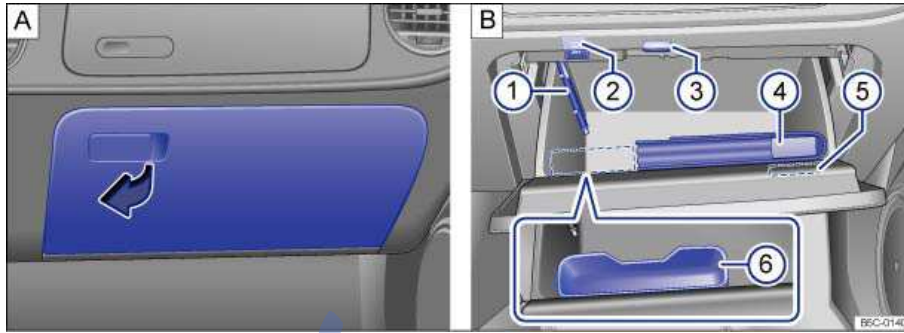

Fig. 104 A: On the passenger side: Lower glove compartment. B: Open glove compartment.
Key to fig. 104 B:
The lower glove compartment is designed to hold the Owner's Manual ⇒ fig. 104 B (4).
The Tire Pressure Monitoring System (TPMS) SET button is also located in the glove compartment ⇒ fig. 104 B (2).
Depending on equipment, there may be a jack for the factory-installed Media Device Interface (MDI)/(MEDIA-IN) ⇒ fig. 104 B (3) in the glove compartment.
There are holders for a pen and a notepad in the lower glove compartment lid ⇒ fig. 104 B (1) and (5).
Depending on equipment, there may be a holder for multimedia devices or a holder for eyeglasses ⇒ fig. 104 B (6) in the glove compartment.